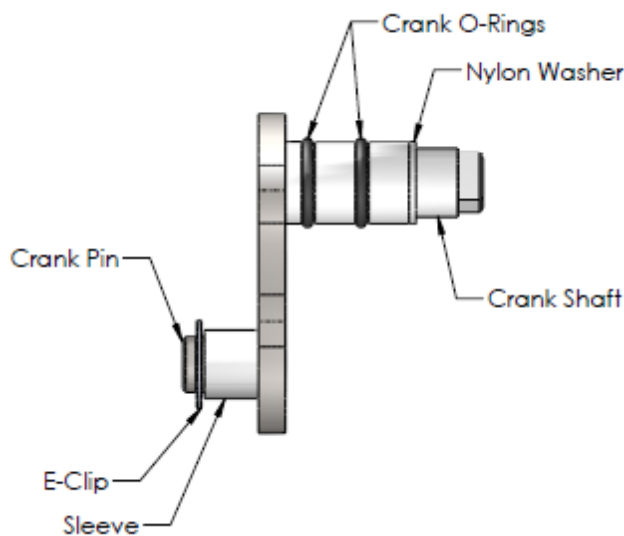

Figure 2
1. Apply lubriplate to crank pin of Crank Assembly and install Sleeve and E-Clip. (Figure 2)
2. Apply lubriplate to o-ring glands on crank shaft of Crank Assembly and install Crank O-Rings and Nylon Washer. (Figure 2)
3. Apply lubriplate to entire surface of crank shaft of Crank Assembly. (Figure 2)